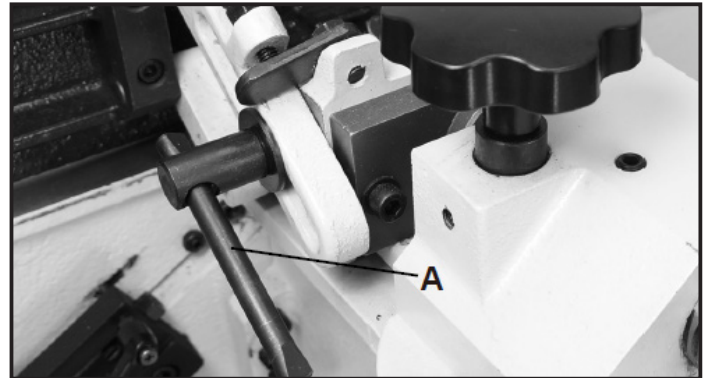

FIG.6.6.2
- To tilt the fence, loosen the lock lever (A), and tilt the fence to the desired angle. Then retighten the lock lever. FIG. 6.6.2.